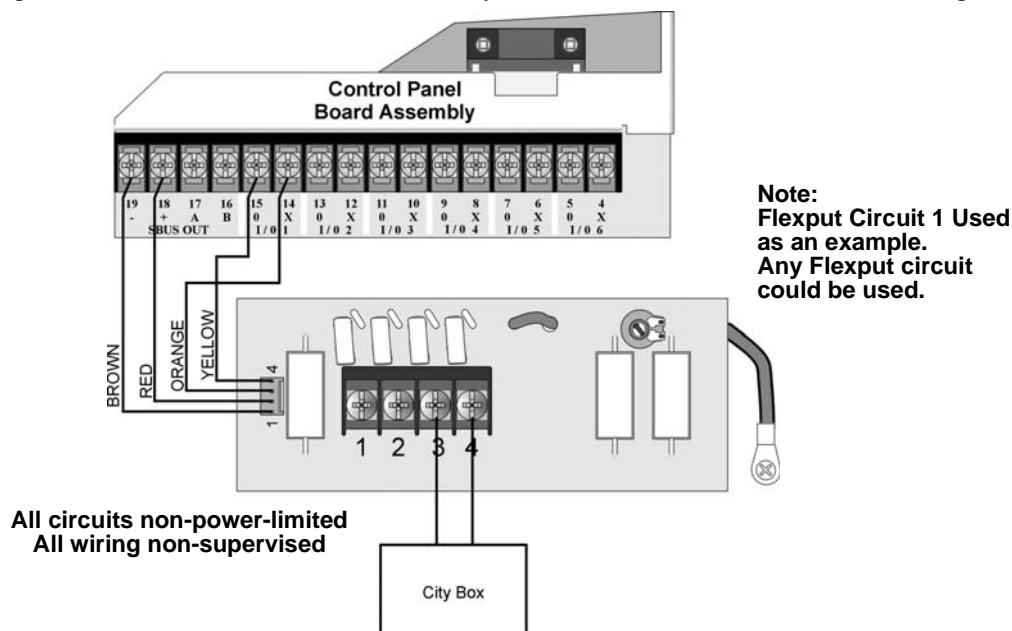

Figure 4-41 City Box Connection
- Wire the 5220 to the control panel as shown in Figure 4-41. This drawing also shows how to connect the city box coil to terminals 3 and 4 on the 5220. Do not install an EOL resistor in the terminals of the Flexput circuit used for this application.